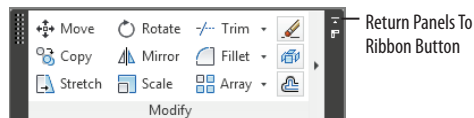

FIGURE 1.12: Using the Return Panels To Ribbon button to restore a floating panel to its host Ribbon tab
8. To return the Modify panel to the Ribbon, hover over its title and then click the Return Panels To Ribbon button shown in Figure 1.12.